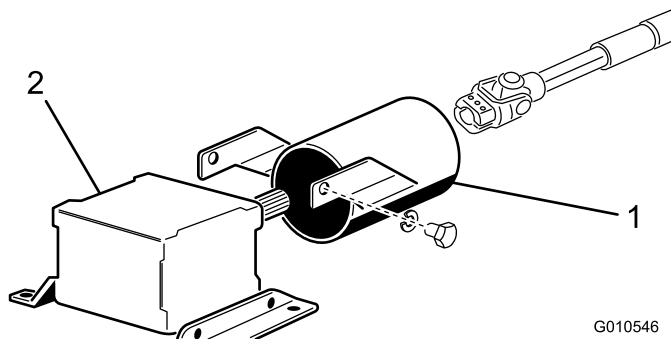

Figure 7
1. Remove the 2 capscrews and lock washers that secure the PTO guard mounting brackets to the gear box (Figure 7).
2. Slide the PTO shaft guard onto the PTO shaft, positioning the guard as shown in Figure 7.